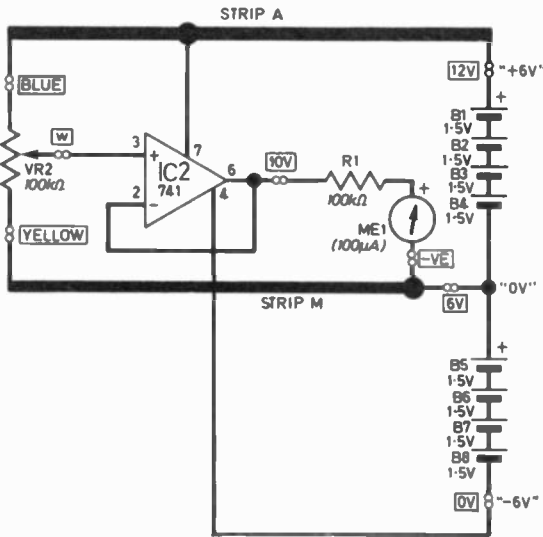

Fig. 7.14. Circuit for investigating the action of an op-amp voltage follower, Expt. 7.2.
Operational amplifiers are very high-gain amplifiers ($\times 200,000$ for example) which usually come in the form of integrated circuits. They normally work on a dual power-supply, as in Fig. 7.14, where we split the 12V battery supply to provide +6V and -6V.
In Fig. 7.14 the output of IC2 is fed back to the inverting input. VR2 acts as a potential divider to provide a variable voltage source of between $0V$ and $+6V$. The layout for this experiment is shown in
8. If pin 3 (Fig. 7.14) is taken to $-3.5V$, what will be the output at pin 6?